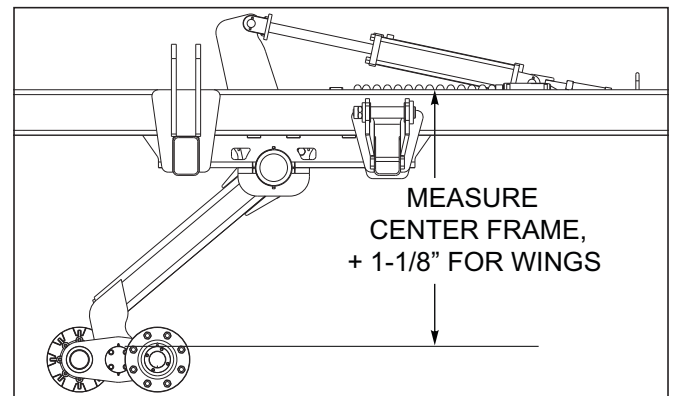
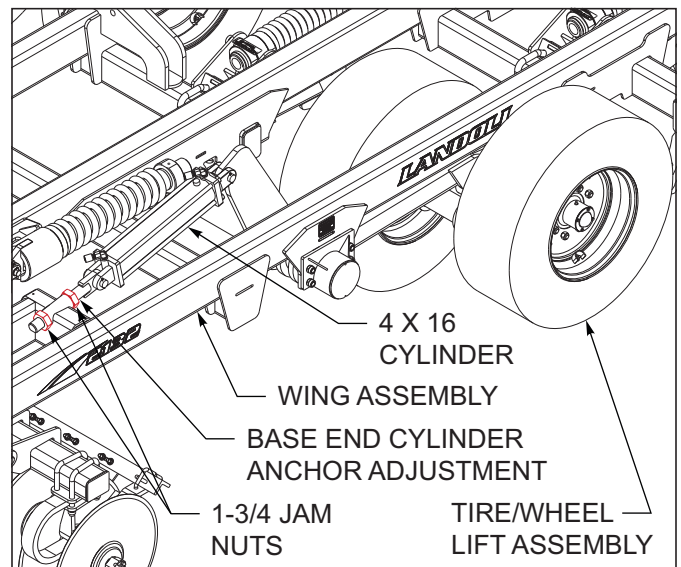

Figure 4-7: Leveling from Side to Side
Figure 4-8: Wing Lift Adjustment
2. To level the unit, verify that all tires are properly inflated. With the implement unfolded, raise the unit to fully extend the lift cylinders. Continue to hold the tractor lever 30-60 seconds to insure that the cylinders are fully extended and the rephasing lift system has been purged of air. Lower the unit until the coulter points are approximately 1" off the ground. On the center frame, measure the distance from the walking beam spindle to the top side of the frame See Figure 4-7. Set wing frames 1-1/8" higher than the center frame. Adjusting the anchor at the base end of each wing lift cylinder sets wing frame height See Figure 4-8.